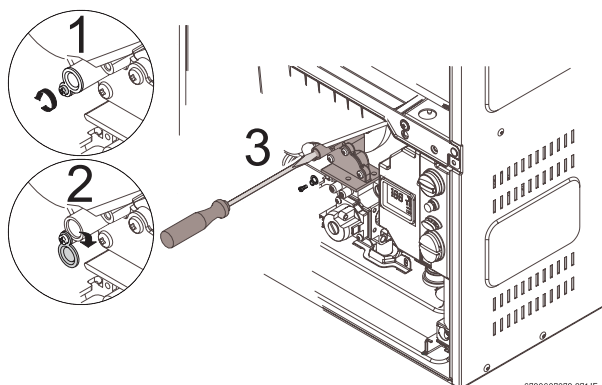

Fig. 44
- ▶ Loosen yellow painted Philips screw (1) and cover should rotate down (2) revealing a brass slotted screw. Fig. 44.